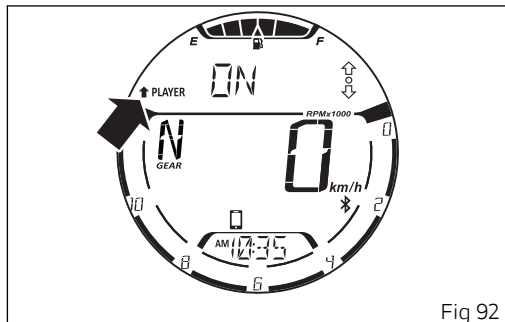

Fig 92
Once activated (ON), the "Music player management (PLAYER)" function appears inside the menu with the black arrow facing upwards followed by the indication "PLAYER" and the message "ON" (Fig 92).